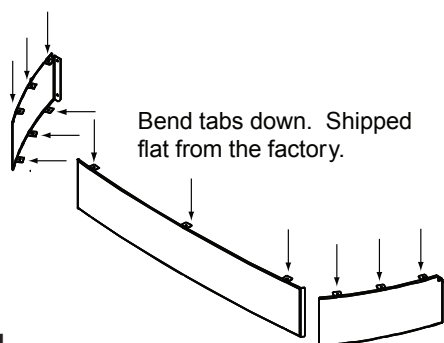

Figure 21.1
2. Lay front and sides face down. Bend the tabs down toward the inside (**Figure 21.1**).